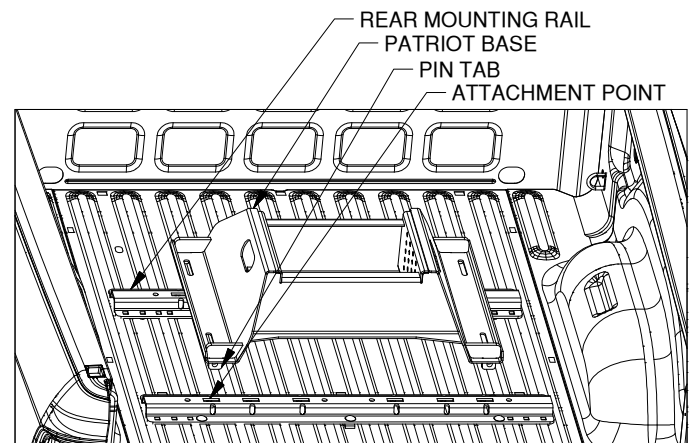

Figure C1: View into truck bed looking towards tailgate.
- 1. Position the forward mounting rail.** For this step the base which will be used in the mounting rails is required. Place a mounting rail into the truck bed in front of the rear mounting rail. Place the base over the rail attachment points and carefully lower it until the pin tabs pass through the attachment points on the rear mounting rail. Attach the forward mounting rail to the forward mounting points on the base. The base should rest flat against the top of the rails, See figure C1. With the base still attached ensure that the forward rail is centered in the truck bed.